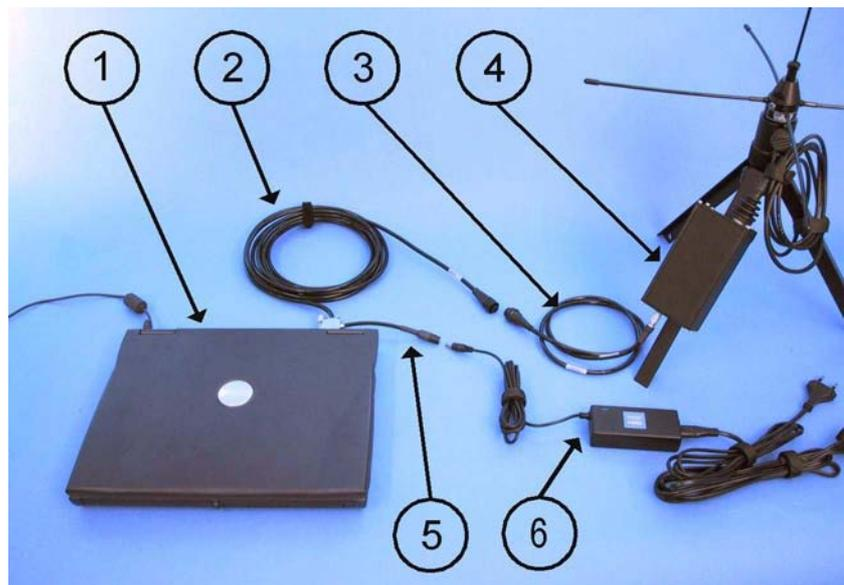

Figure 48 Connecting the Radio Modem to PC
2. For connecting MIDAS IV PC to the radio modem, refer to Figure 48 on page 59.
- a. Place the correctly configured radio modem (number 4 in Figure 48 on page 59) to the adapter that is mounted on the leg of the tripod.
- d. Connect the data/power cable (number 3 in Figure 48 on page 59) to the radio modem (4) and the other end to the PC cable (2).
- e. Connect the Power Supply Module QMP211 (6) to the power connector (5) of the PC cable and to an AC (mains) outlet.